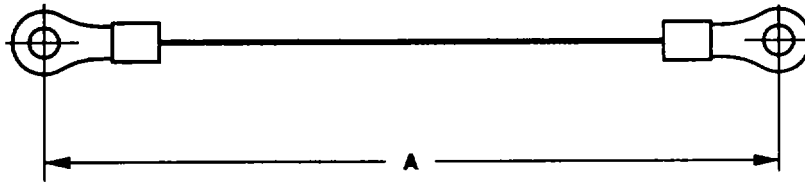

Figure F-3. Electrical Lead Assembly.
13230E4377	Figure F-3
- a. Refer to tables F-5 and F-6 to determine material and wire length (Figure F-3, A) for each wire assembly.